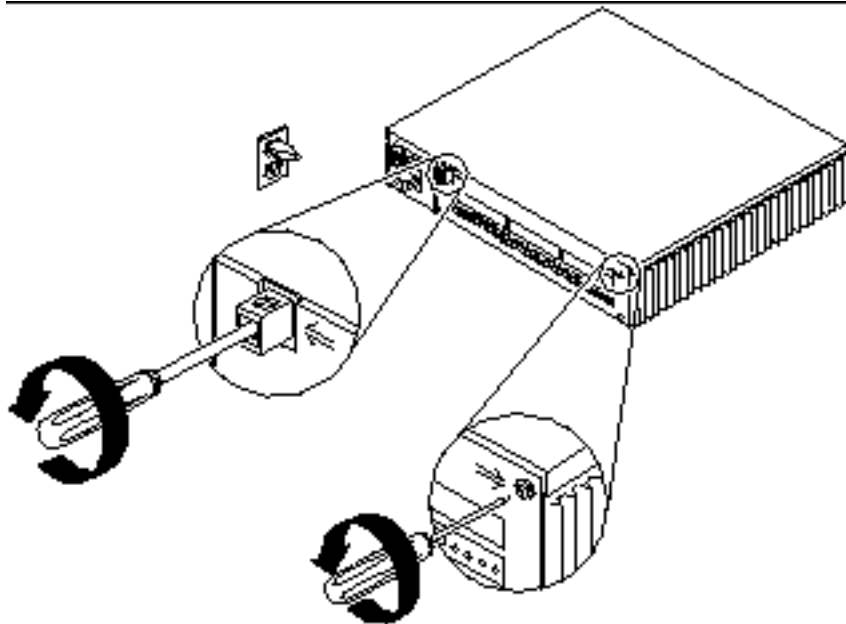

Figure 7-1 Removing the Rear Panel Cover Screws
2. Loosen the captive Phillips-head screw in the upper-right corner of the rear panel (see Figure 7-1).
3. Unscrew the Phillips-head screw that secures the lock block to the cover. Remove the lock block and put it aside (see Figure 7-1).